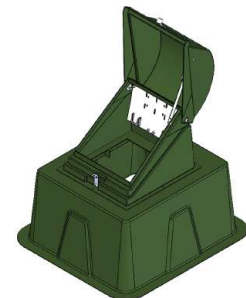

Figure 3
8. Fasten the bolting hardware (Figure 3).